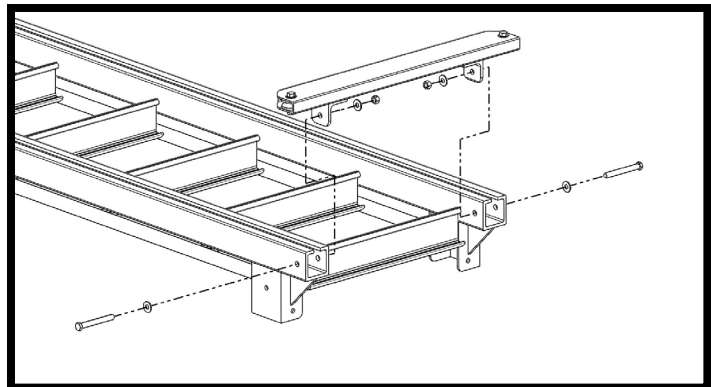

Figure 6
4. Rotate Lower Roller Bracket Assembly on Ladder and align mounting holes. Attach using hardware provided in Kit #3 to complete Lower Roller Bracket assembly. See Figure 6.